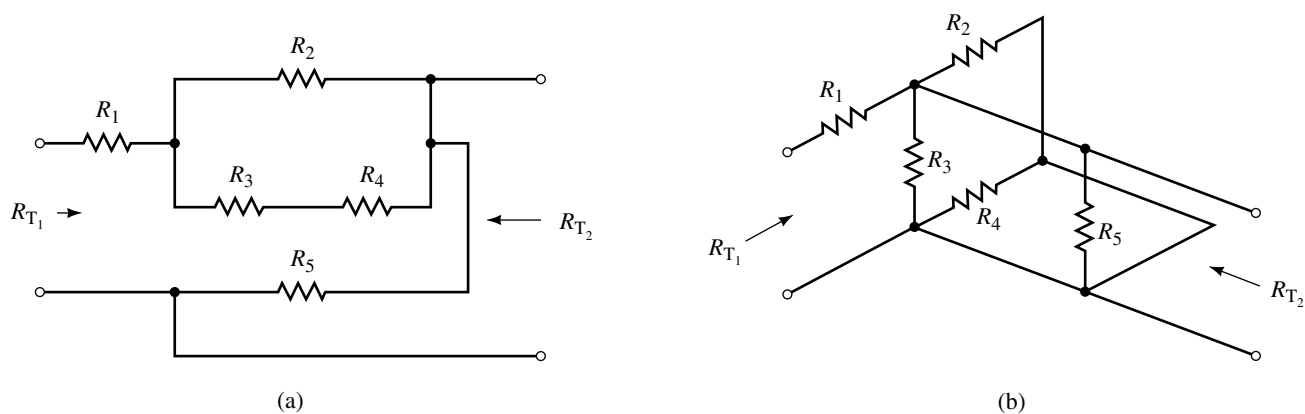

FIGURE 7-48
- Write an expression for both R_{T1} and R_{T2} for the networks of Figure 7-48.